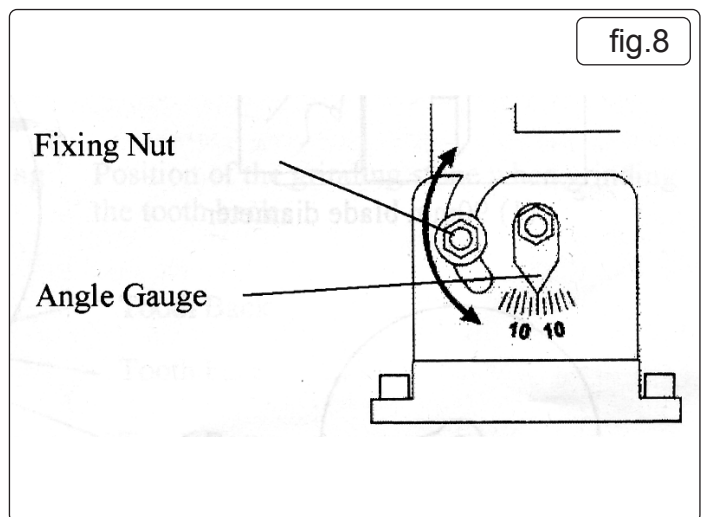

fig.8
- 4.10.1. For saw blades with set teeth the motor can be tilted. Unscrew the fixing nuts on both sides of the motor retainer and adjust to the desired angle. The motor can be tilted up to 25° in both directions. (See fig.8). It might be possible that the desired angle cannot be reached as the motor touches the base plate for large angles. In this case turn the motor block by 180° within the collar of the motor holder (loosen the clamping screw, (see fig.1) on the neck of the motor). (See fig.8).